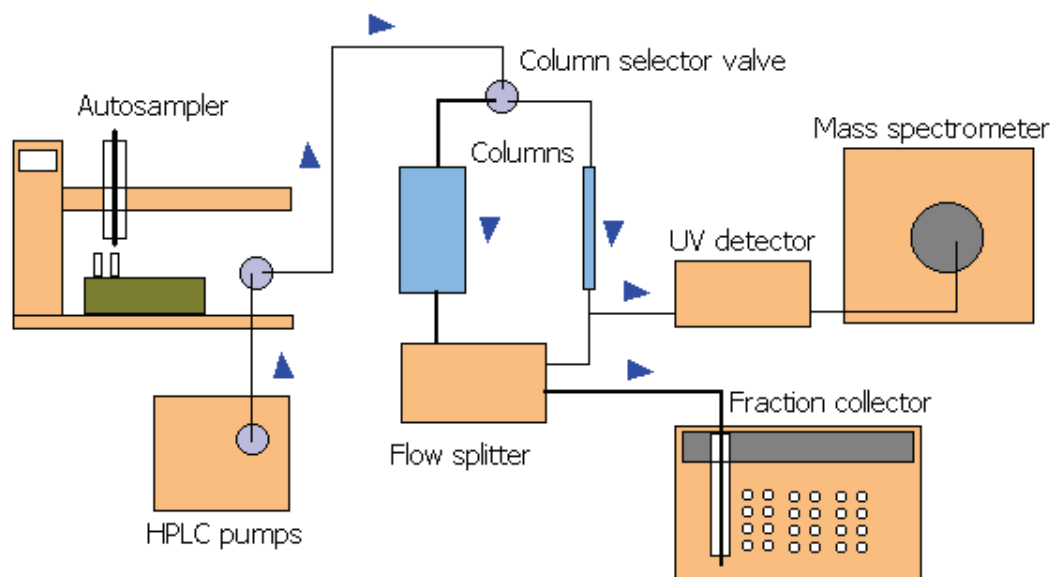

Figure 12: an appropriate diagram for plumbing of HPLC
- 3.1 Arrange basic plumbing with column inline after the UV cell (if using UV) and mass spec detection (Figure 12)